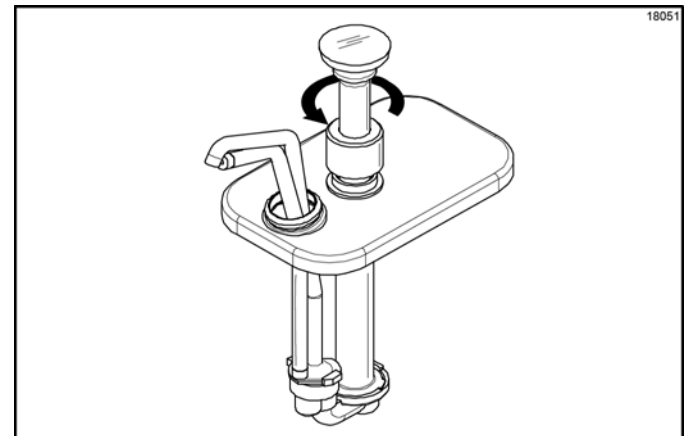

Figure 6-92
3. Remove the plunger assembly from the pump body by turning the plunger nut counterclockwise. (See Figure 6-92.)